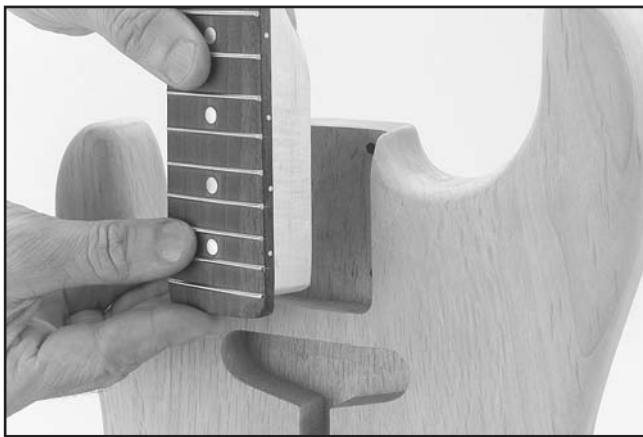

Figure 13. Fitting neck into neck pocket.
2. Place the neck into the neck pocket (**Figure 13**).